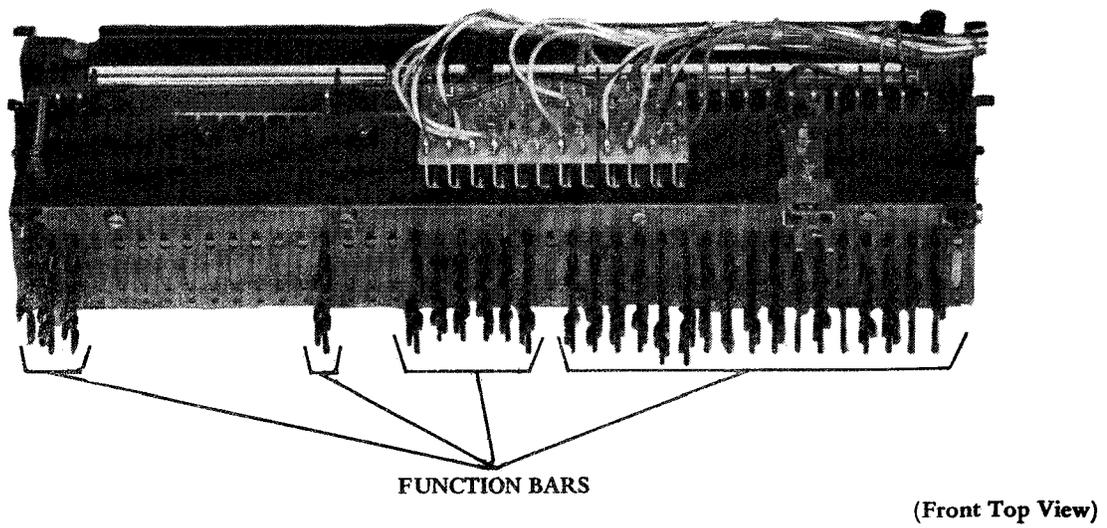

Figure 8 - Function Box
2.19 After removal of the function box (Figure 8), the function bar is removed by the following method.
- 2.20 Reverse the procedure used in removal (Figure 8) in 2.19.